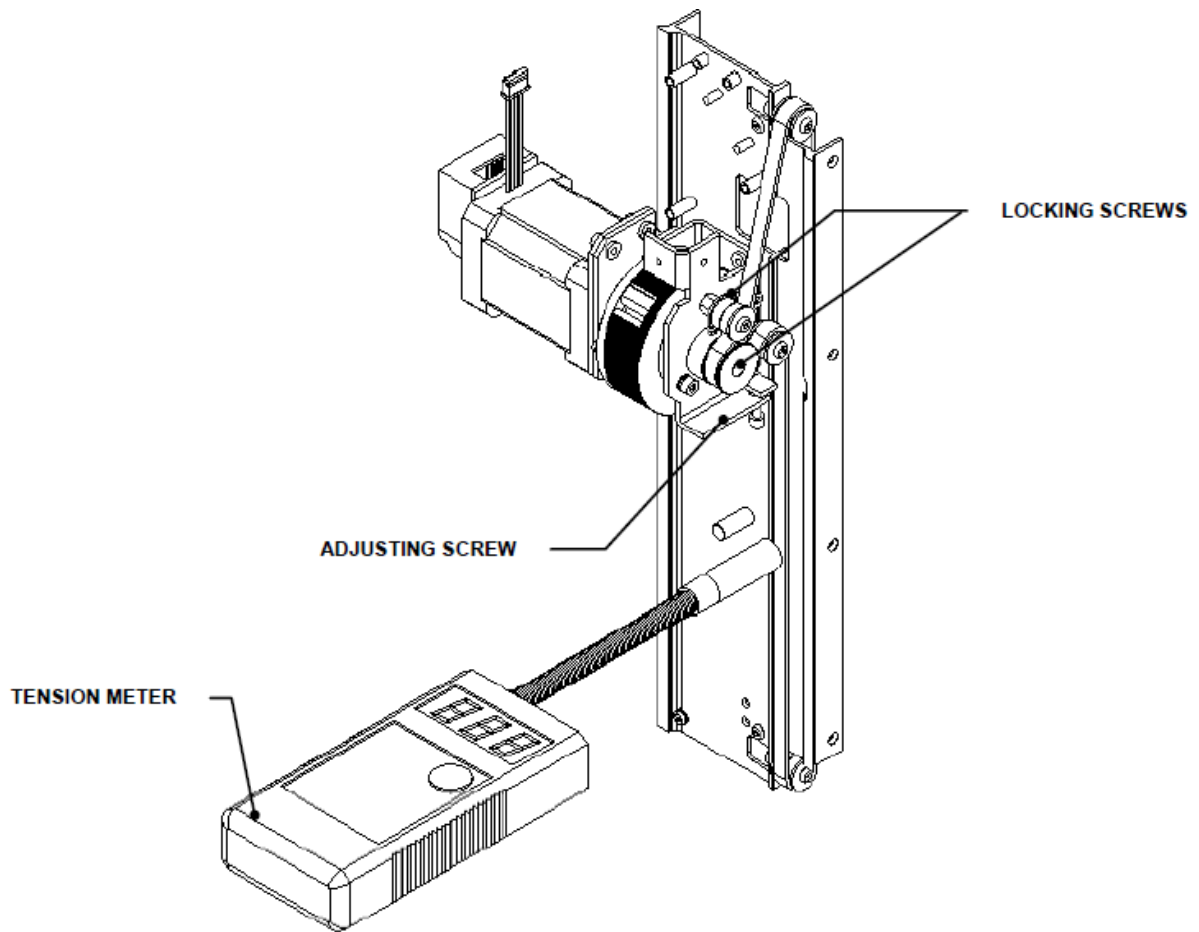

Figure Z-15: Adjusting the Belt Tension
2. Route the TAZD Upper Belt as shown in Figure Z-15. Position the Tension Meter (Gates Sonic Tension Meter 507C) at the approximate position indicated in the figure (the Tension Meter must be 3-6mm away from the belt to obtain a reading).